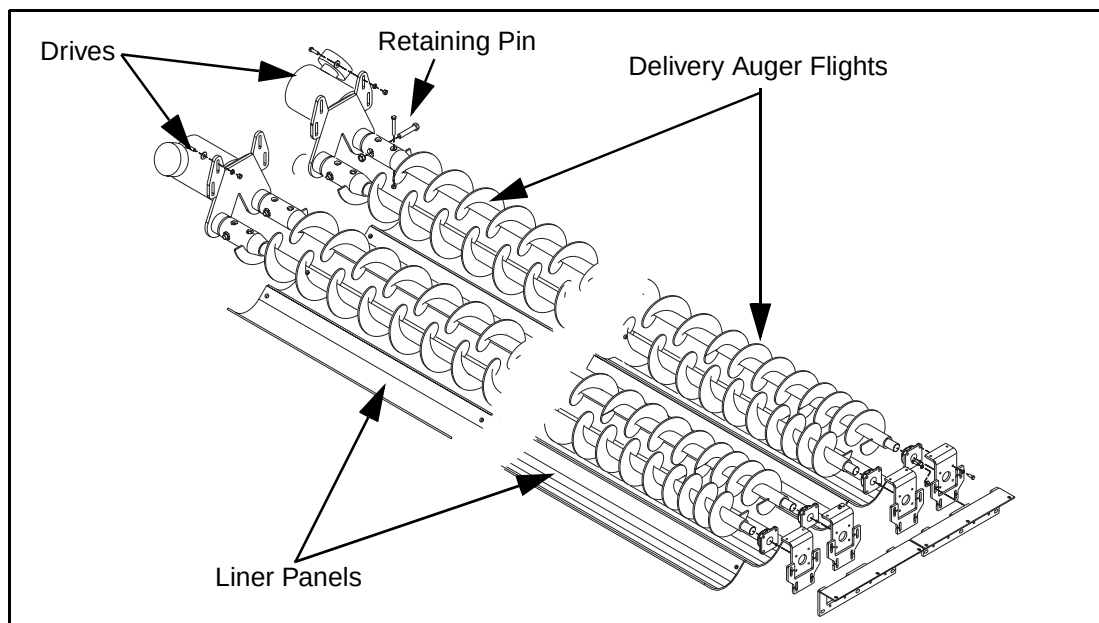

Figure 6 - 79 Replacing Delivery Auger Liners and Flights
- 3) To replace liners, remove bolts retaining liner panels and slide liners out the back of the paver. New liners can be installed in reverse order. (Figure 6 - 79)